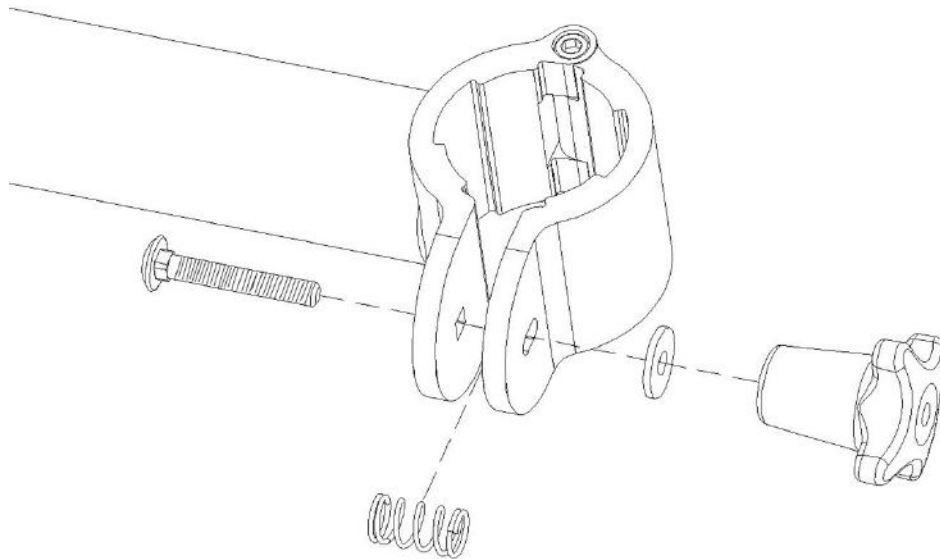

FIGURE 3
STEP 3: Assemble the Tube Clamps using # 13 Carriage Bolt, # 11 Spring, # 8 Washer and # 7 Knob as seen in FIGURE 3.